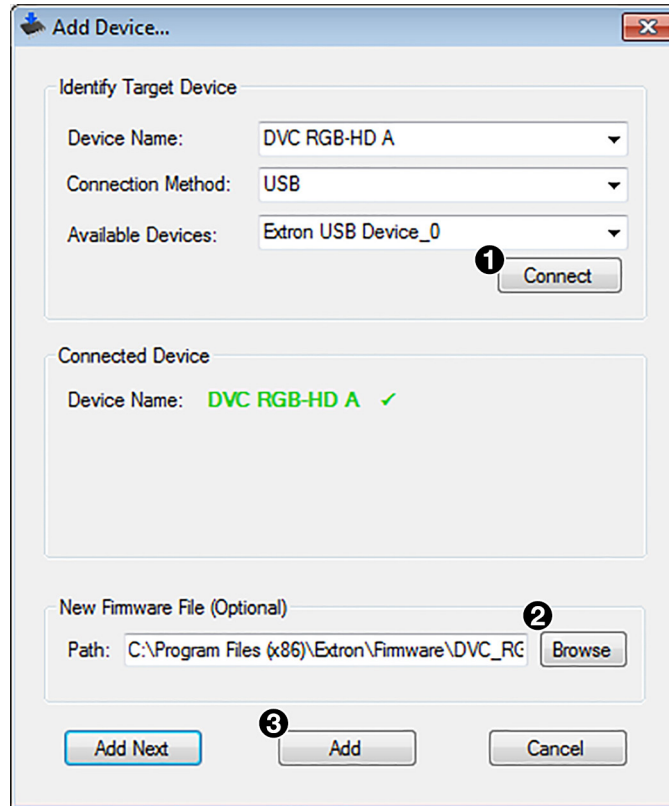

Figure 19. Connection Method Menu on the Add Device Window
6. Click the **Connect** button (see figure 19, ①). DVC RGB-HD A appears in green in the Connected Device panel, followed by a check mark.
9. If this is the only device to which you are uploading firmware, click **Add** in the Add Device dialog box (see figure 19, ③, on the previous page).